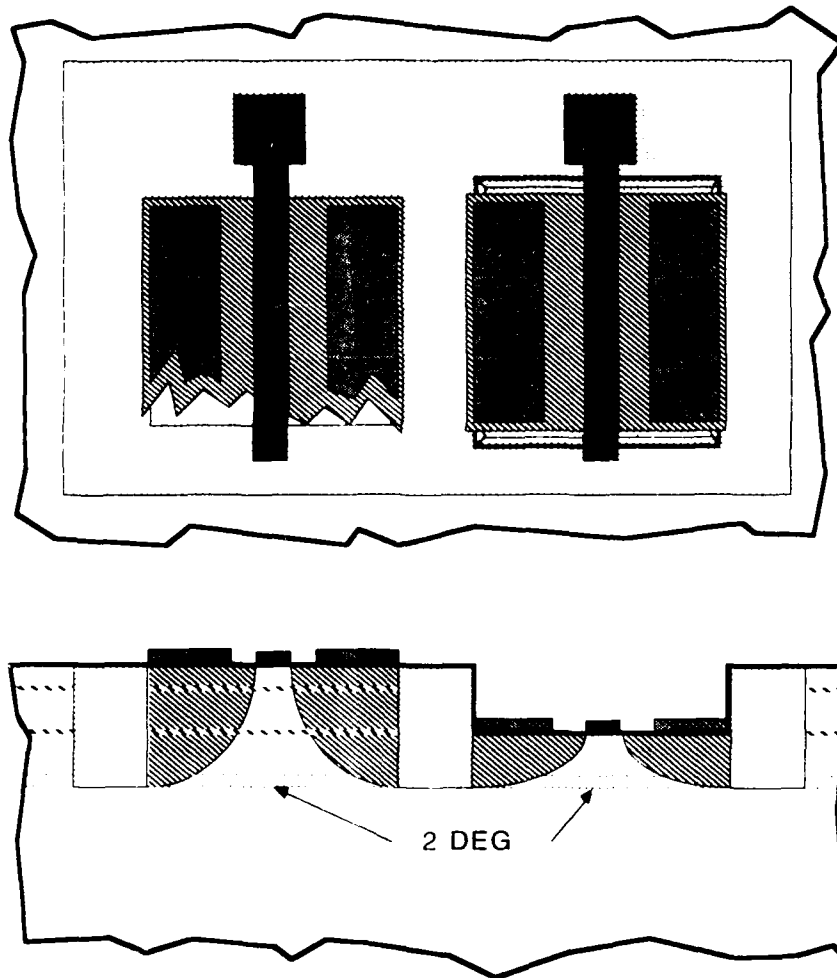

FIGURE 6
- Figure 6. Ohmic Metal Contact